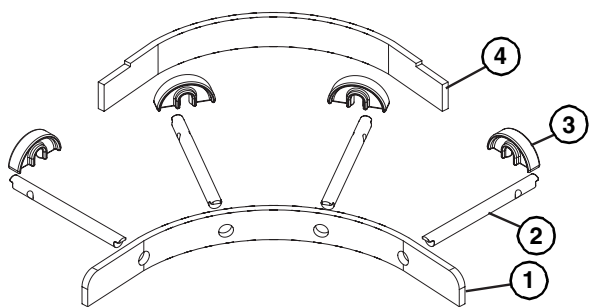

**Figure 28**
3. Insert the wear strips (**Figure 28, item 1**) into the appropriate slots in the frame (**Figure 28, item 2**), starting with the shortest wear strip on the inside of the curved section and working outward to the longest.